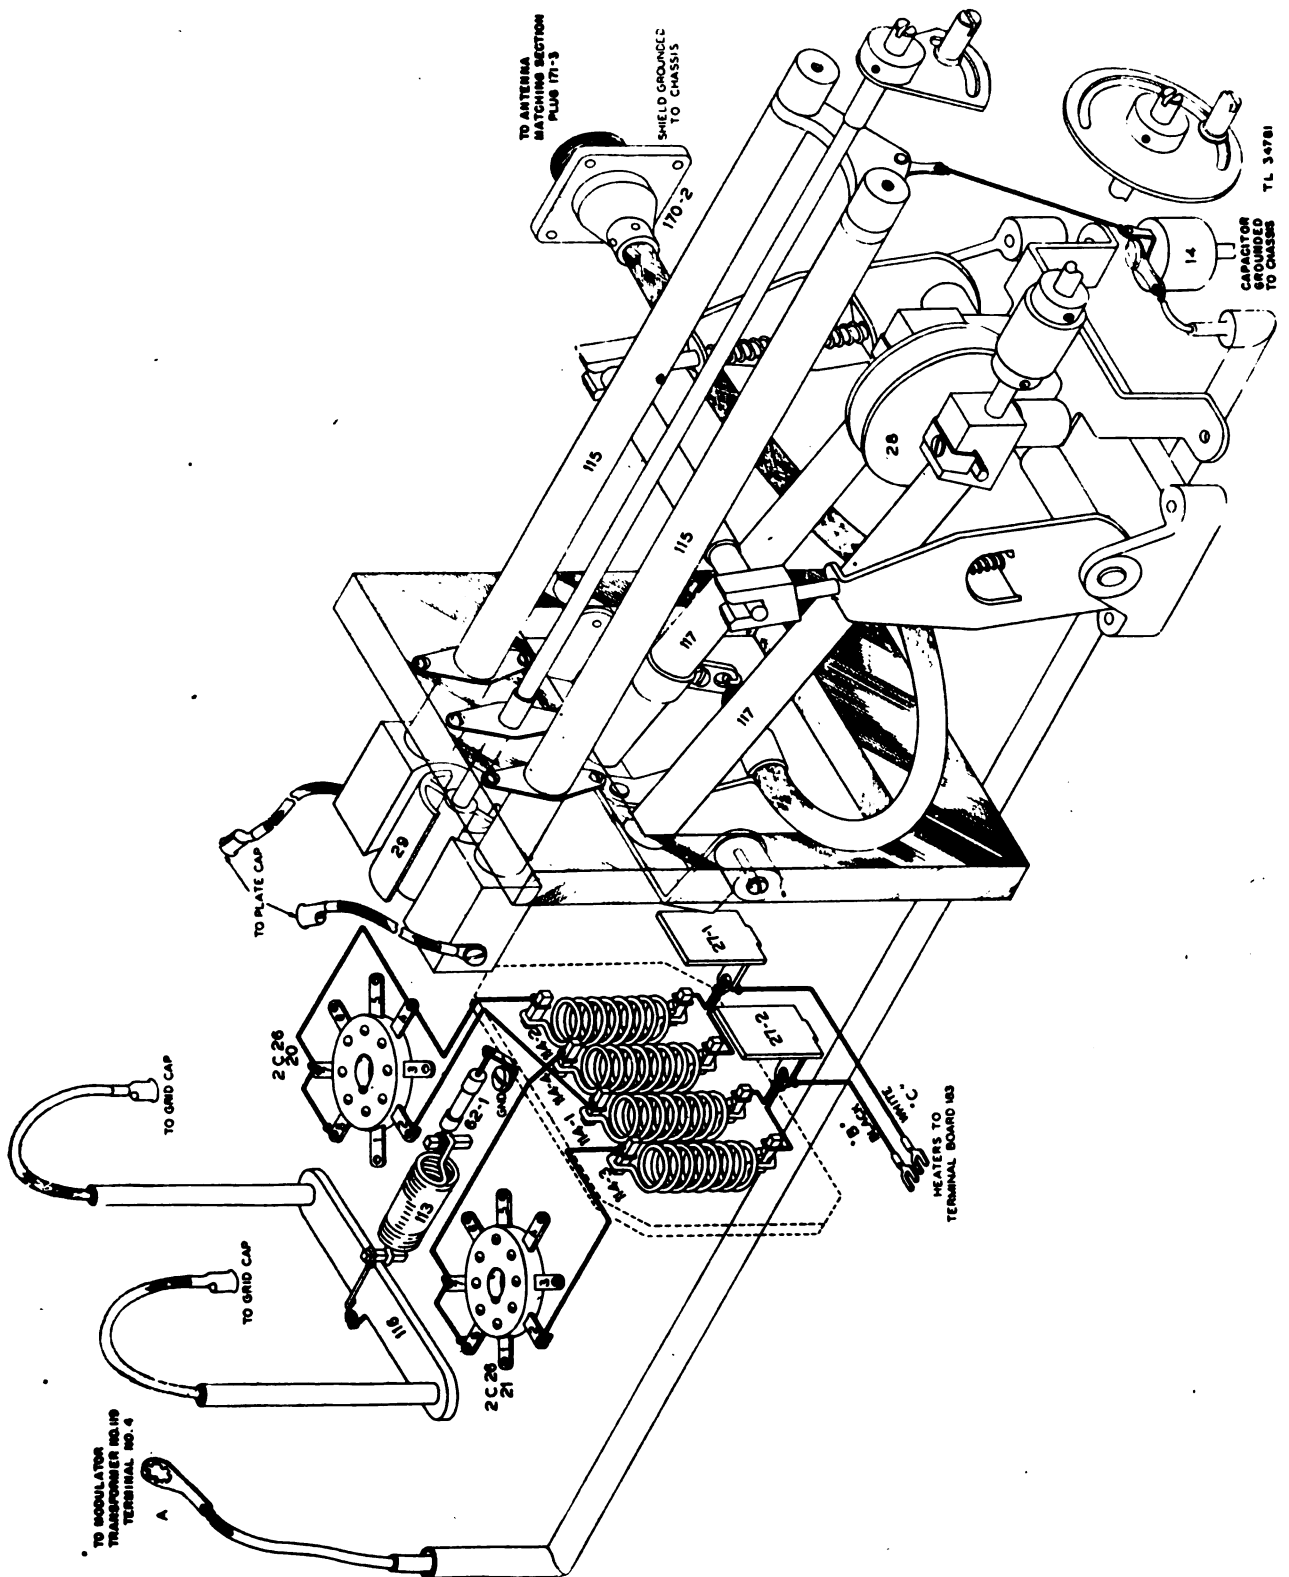

Figure 74. Radio Receiver and Transmitter BC-1267-A, wiring diagram of r-f oscillator.
1. R-F oscillator circuit (fig. 74).